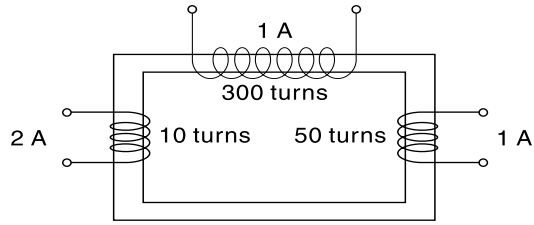

Fig. 3.20
3.29 What is the value of the net mmf acting in the magnetic circuit shown in Fig. 3.20.